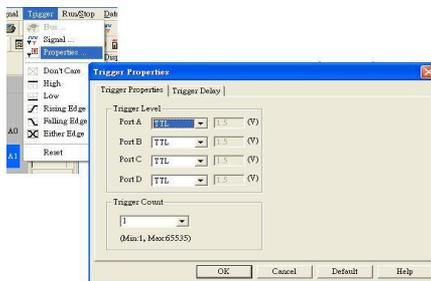

Fig 2-4 – Trigger Properties
Step 1. Click  icon or Click Properties from the Trigger on the Menu Bar. The dialogue will appear as shown in Fig 2-4.